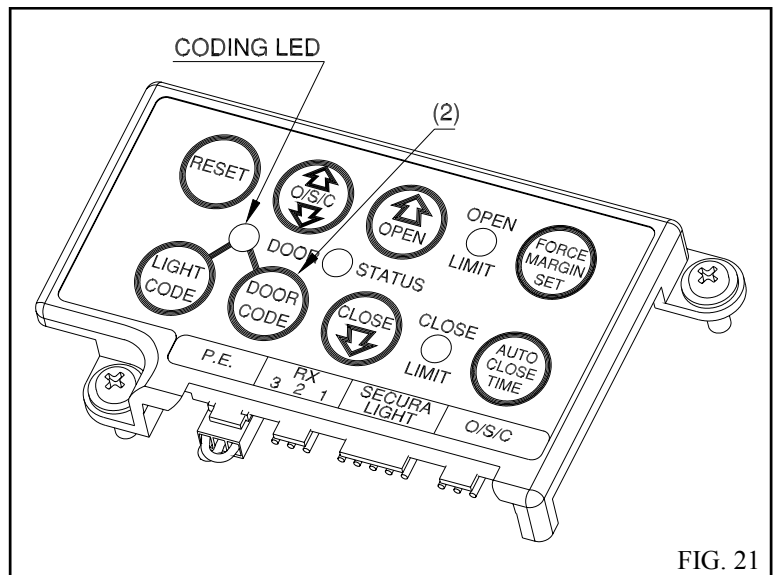

FIG. 21
2. Press and hold the blue Door Code button 2 ( FIG. 21) on the Control Panel.
2. Press and hold the blue Door Code button 2 (FIG.21) on the Control panel.